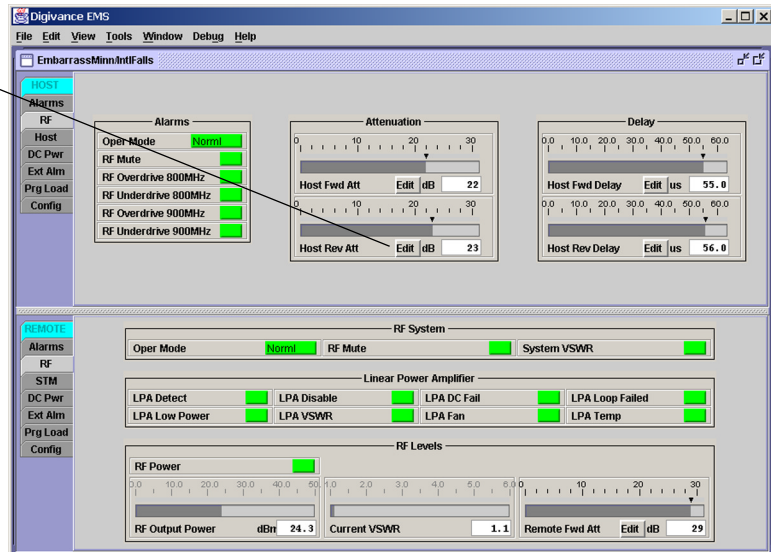
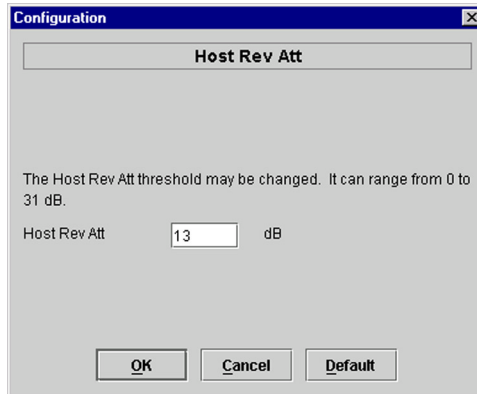

Figure 3-11. Typical HOST RF Display
Figure 3-12. Host Rev Att Pop-Up Screen
4. Click on the **HOST RF** tab. The **HOST RF** display will open within the EMS main window as shown in Figure 3-11.
5. Click on the **Host Rev Att** field **Edit** button (see Figure 3-11). The **Host Rev Att** pop-up screen will open as shown in Figure 3-12.